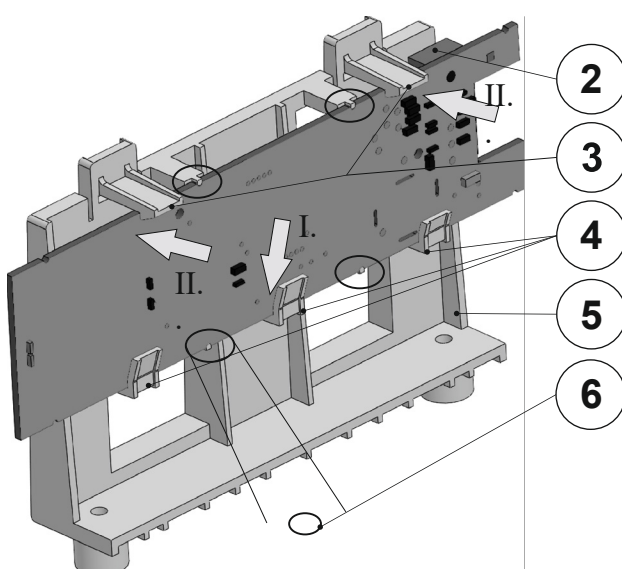

Figure 2: 2 – connection cable connector; 3 – upper holder tabs; 4 – lower inclined locking tabs; 5 – radio module holder; 6 – locking detail
1. Insert the PCB of the radio module (orientation according to Figure 2) into the holder (5) in a direction indicated by arrow I. at an angle given by the three lower inclined locking tabs (4). Make sure that the PCB of the radio module sits with its half-round cutouts on the half-round